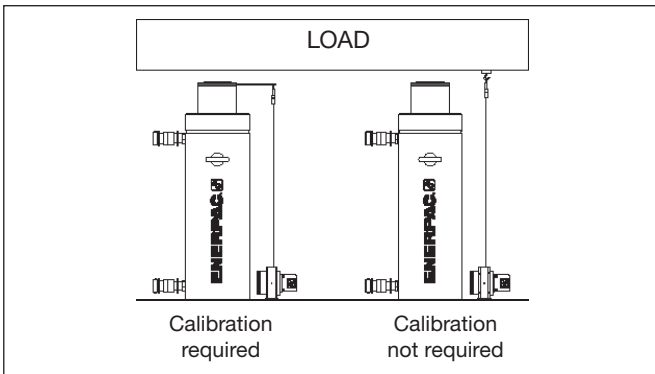

Figure 84: Calibration Conditions
2. Cylinder calibration selection: The user must set if the calibration is going to be carried out or not, depending on the type of cylinder used. Refer to Figure 84 for details.